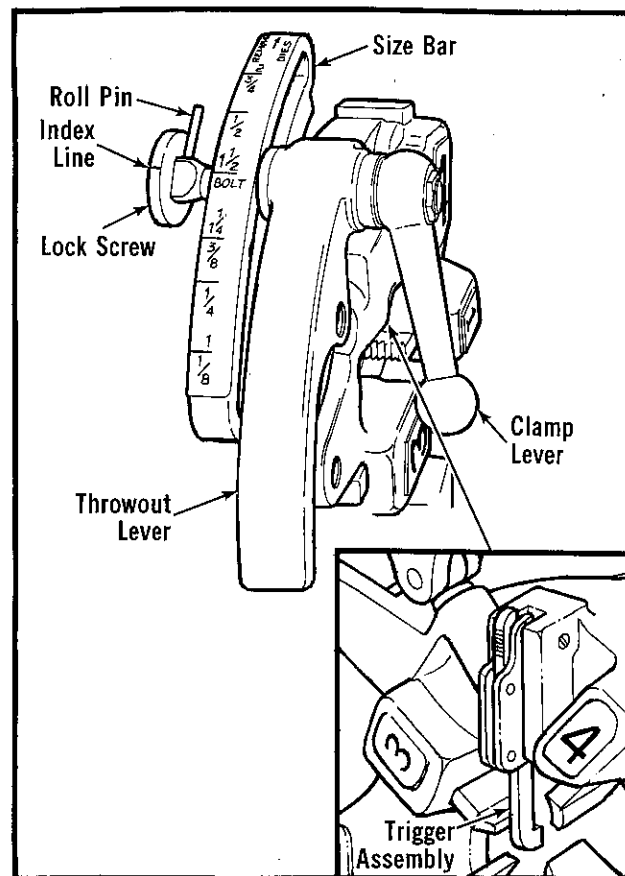

Figure 12. Self-Opening Die Head.
7. Self-Opening Die Head (Fig. 12) - When Die Head Trigger contacts end of pipe (1/2" through 2") Die Head is automatically opened.
The No. 815 Self-Opening Die Head (Fig. 12) for right-hand threads requires four sets of Dies to thread pipe ranging from 1/8" through 2". One set of Dies is required for each of the following pipe size ranges: (1/8"), (1/4" and 3/8"), (1/2" and 3/4"), and (1" through 2"). Bolt threading requires a separate set of Dies for each bolt size.